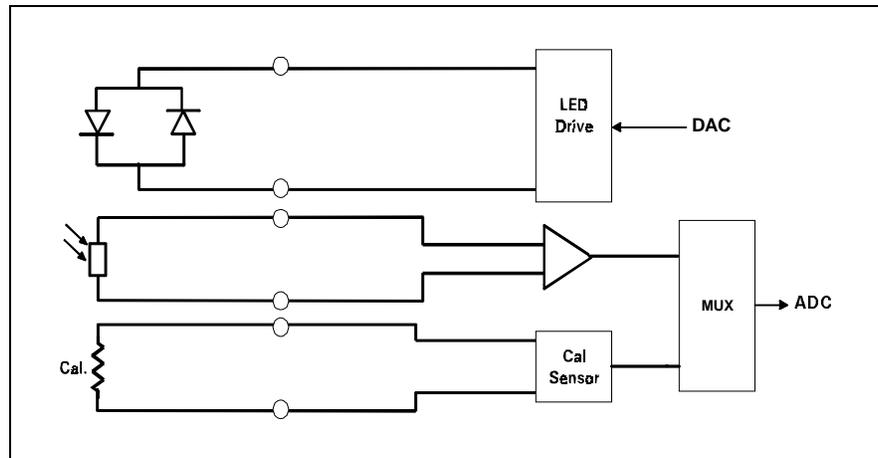

Figure 2-12 SpO₂ Functional Block Diagram
Determination of the concentration of oxygen in the blood depends on the principle that the absorption of red (R) light depends on the degree of oxygenation of the blood, whereas the absorption of infrared (IR) radiation is independent of oxygenation and causes only constant attenuation. Refer to Figure 2-12. In the SpO₂ sensor, R and IR emitting leds are alternately pulsed on at a 25% duty cycle. The intensity of light (including ambient) transmitted through or scattered by the blood is converted to a current by a photodiode in the sensor. The current that appears when both leds are off depends mainly on the ambient light. This ambient contribution is later subtracted to leave only the R or IR signal levels. The large dynamic range of the light intensities requires constant automatic monitoring and adjustment.